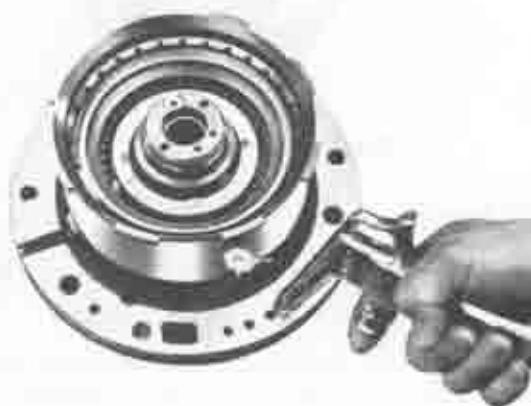

Fig. 2-22 Testing front clutch
12. Install the front clutch assembly in the oil pump. Blow compressed air into the oil hole as shown in Fig. 2-22 and check the clutch operation.